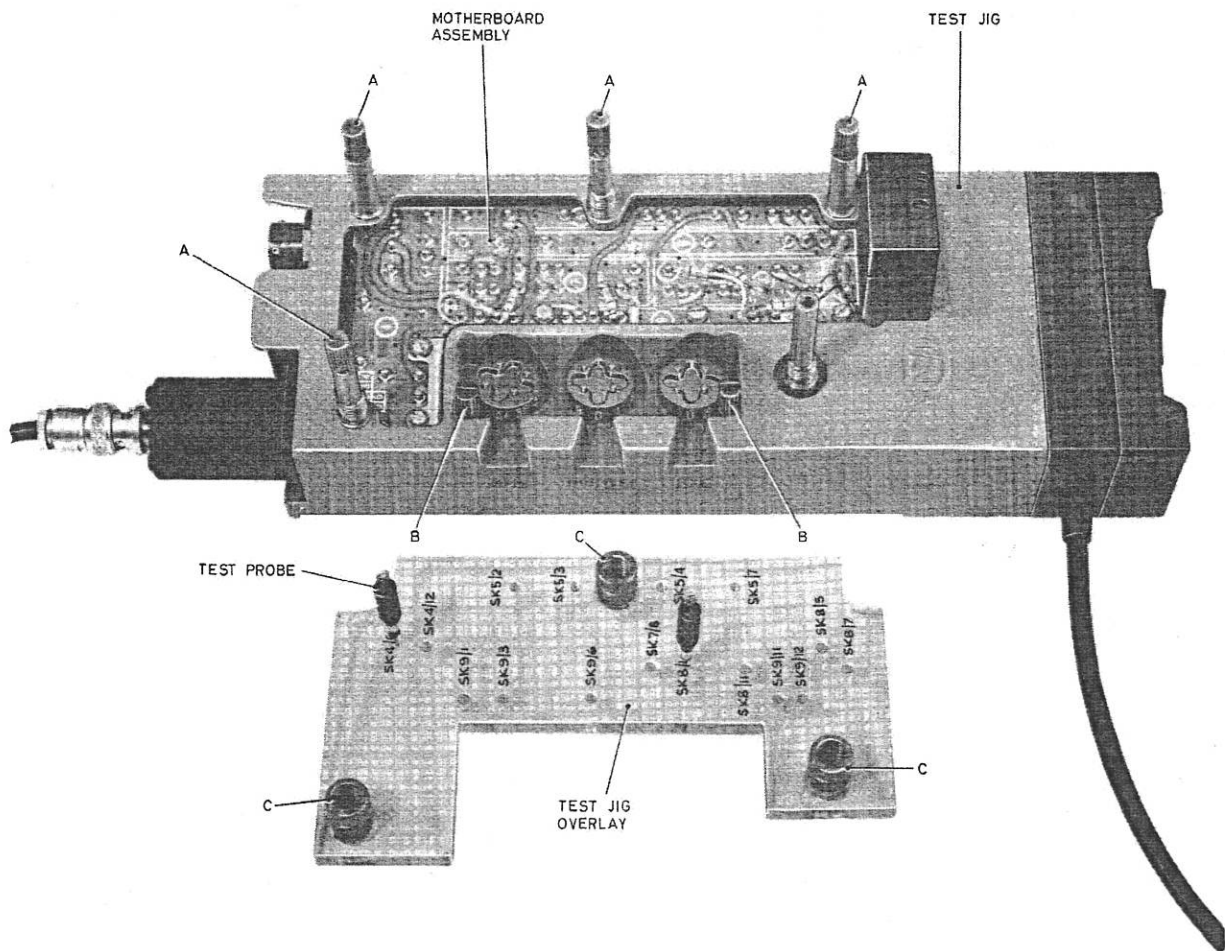

Fig 2 - Motherboard assembly fitted into test jig
- (1) Tilt the assembly, slightly, towards the antenna socket pin to ensure satisfactory contact with the spring-connector on assembly 4.
- (2) Ensure that the switch shafts engage satisfactorily with the knobs.
- (3) Ensure that all the motherboard assembly fixing screws are correctly located before tightening; if necessary, ease the motherboard assembly towards the antenna socket pin, thus compressing assembly 4 spring-connector, in order to allow the fixing bushes to line up with the screw holes in the test jig.
- d. Screw-up and tighten the four long screws (A of Fig 2) and two short knurled pillar screws (B of Fig 2).
- e. Fit the test jig overlay and tighten the three knurled rings (C of Fig 2).
Fig 2 has been updated.